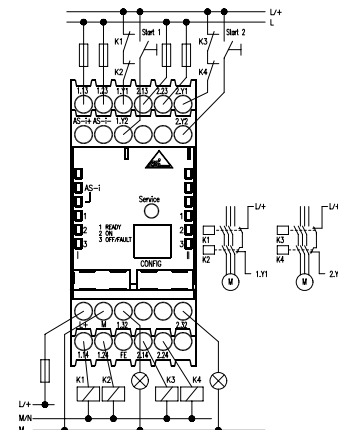

Fig. 2: Connection overview ASM1/2, ASM1E/2
**Connection ASM1/2, ASM1E/2 and terminal assignment (Fig. 2)**